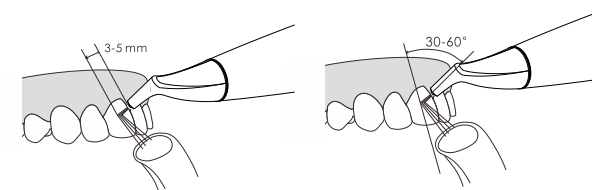

Figure 8 Subgingival Sandblasting
- Do not direct the nozzle directly towards the surface of teeth. Respect a distance of 3 to 5mm. Vary the angle between nozzle and tooth from 30 to 60 degrees. (See Figure 8)